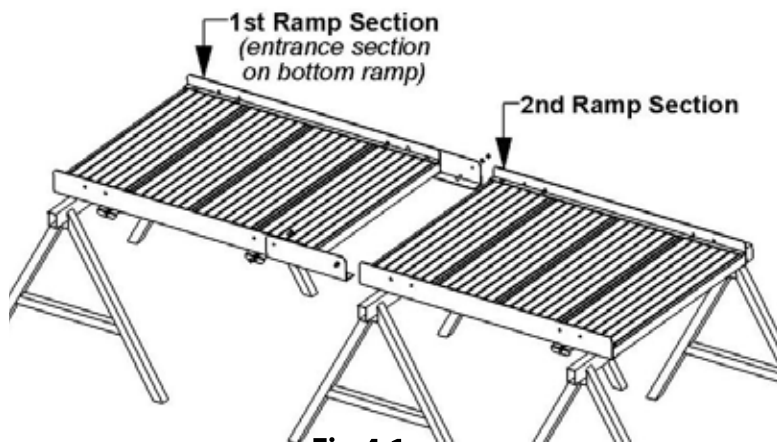
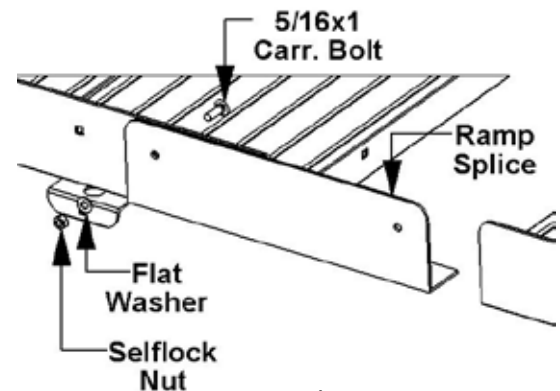

Fig.4.1
Fig.4.2
4.1 Ramp Section Assembly: If system has platforms assemble platforms first and set in place before assembling ramps. Start by setting the first ramp section (**shortest ramp section**) of the ramp run across a set of saw horses. (**Fig.4.1**) If assembling a bottom ramp run start with the entrance section. Attach a ramp splice to each side of the first section of ramp using the square holes in the ramp frame rail closest to the end of ramp section. Place ramp splice over the ramp frame rail and align the holes of the ramp splice and ramp frame rail (**Fig.4.2**). Place carriage bolt through the holes making sure to keep the head of the bolt to the inside of ramp section. Place washer over bolt and fasten with self locking nut. Position the next section of ramp and attach using the same method. Repeat this process until entire ramp run has been spliced together.